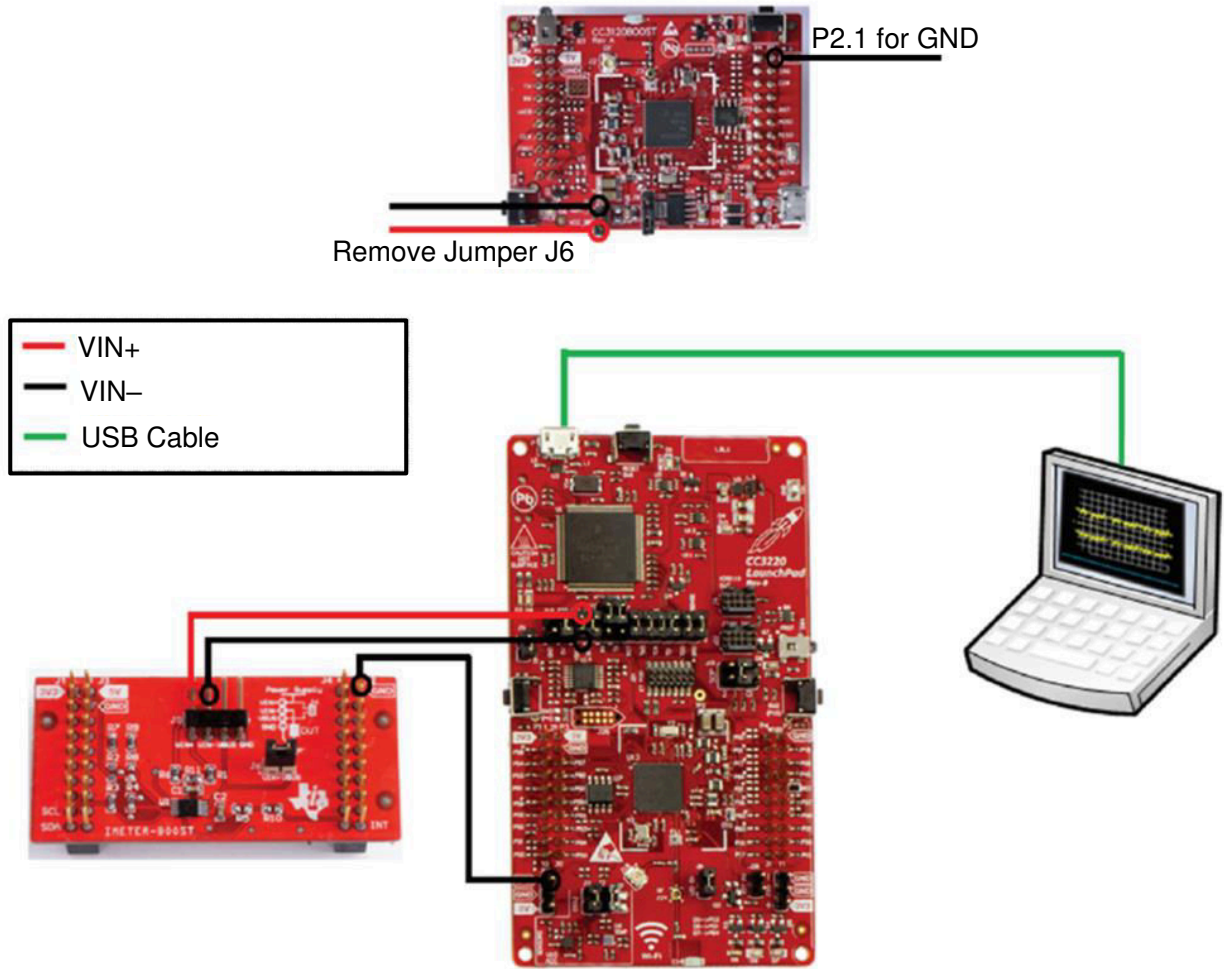

Figure 2-11. IMETER-BOOST Test Setup
3. Execute the code and measure the current using the data acquisition tool. For reference, Figure 2-11 shows the full overview.